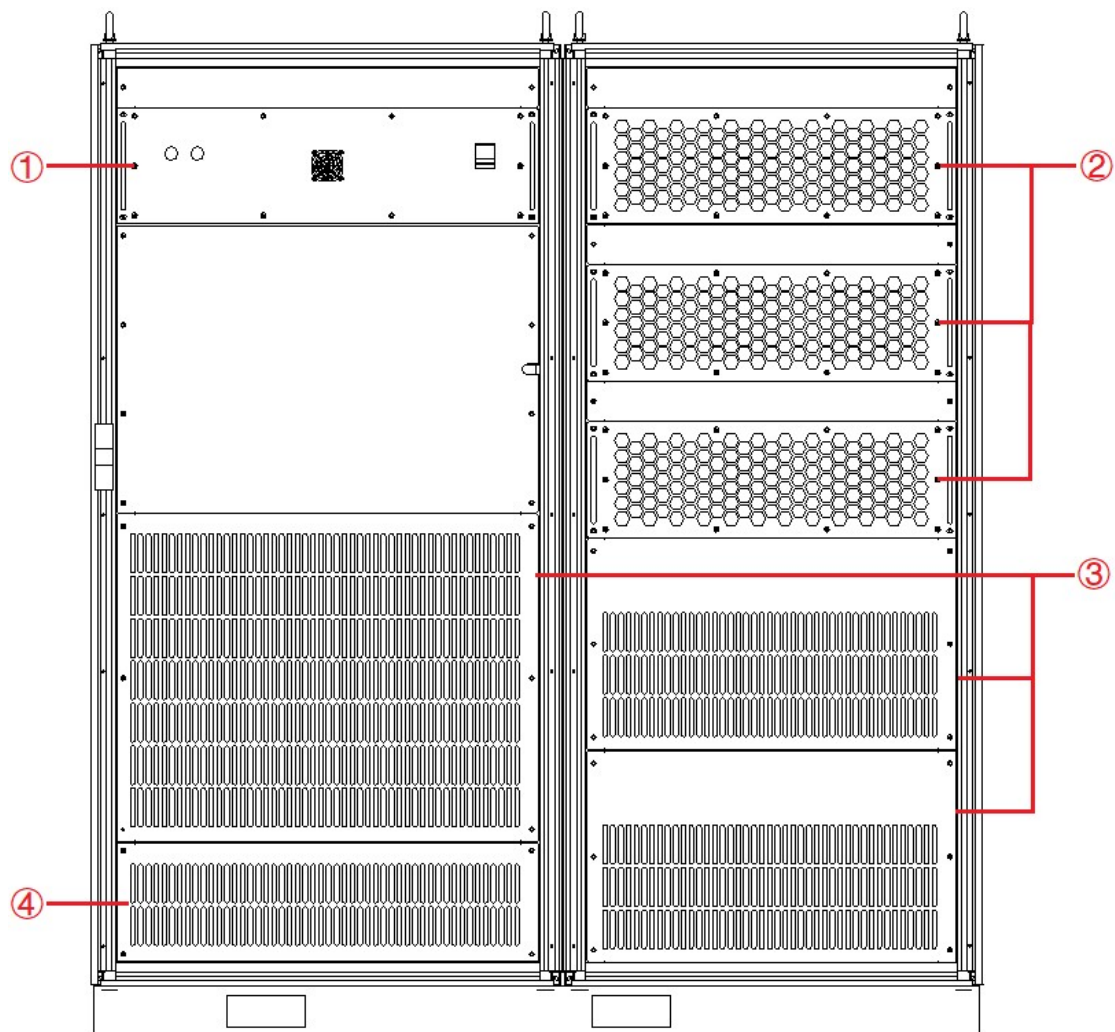

Figure 1-4 Internal structure
①	RS485 interface	Standard configuration, used for remote control.
②	LAN interface	Standard configuration, it is a communication interface, and used for remote control.
③	TTL	Standard configuration, for users to observe the trigger signal after connecting with the oscilloscope.
④	ATI interface	a. Analog control interface-Phase A b. Analog control interface-Phase B c. Analog control interface-Phase C Optional, analog control interface (-ATI option)
⑤	Product brand	The input / output configuration of the product is marked.
As shown in Figure 1-4, take EAC-4Q-GS 200-300-300 as an example, from top to bottom, the internal modules of EAC-4Q-GS series are: ① control box layer, ② module layer, ③ other input/output component layer, ④ wiring layer and other interface layers.